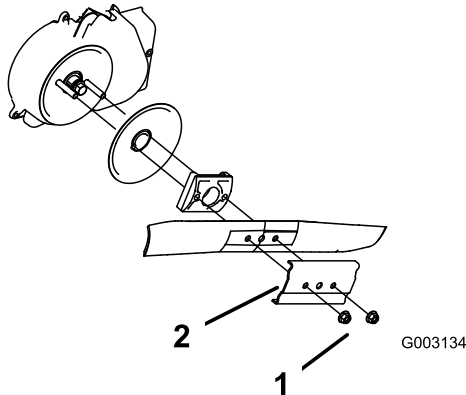

Figure 27
3. Remove the 2 blade nuts and the stiffener (Figure 27).
4. Remove the blade (Figure 27).
5. Install the new blade (Figure 27).